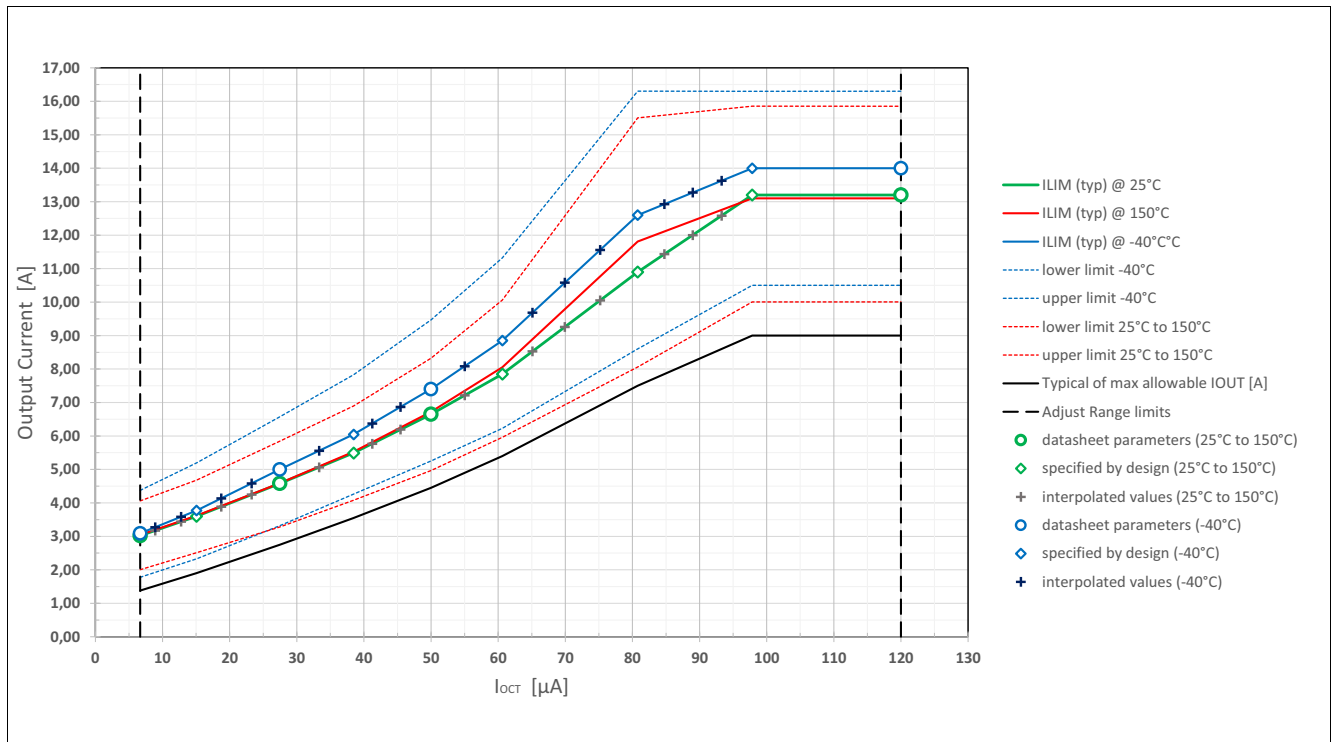

Figure 28 Current limitation threshold $I_{LIM(th,adj)}$ as function of I_{OCT} and related limitation values for different temperatures
This clearance needs to be respected for the nominal load current of a given application and represents an upper limit for the allowable nominal load current²⁾. As the typical values of a selected current limit do not vary significantly from $T_j = 25^\circ\text{C}$ up to $T_j = 150^\circ\text{C}$ for most of the I_{OCT} -settings the given maximum and minimum values of the current limit listed in **Table 11** hold true for the temperature range $25^\circ\text{C} \leq T_j \leq 150^\circ\text{C}$. Deviations that have to be expected for the typical values of the current limit at 150°C can be seen in **Figure 28**.
Figure 28 moreover illustrates how the current limitation values will shift for low temperatures. **Table 12** provides typical values for the current limitation for the extreme case of $T_j = -40^\circ\text{C}$ and an overview of corresponding minimum and maximum values for the current limitations.
- 1) $I_{LIM(th,adj)}$ values coincide with typical values of the current limit I_{LIM} @ 25°C . Typical values for I_{LIM} @ 150°C may show deviation from $I_{LIM(th,adj)}$; see Figure 28 for further details